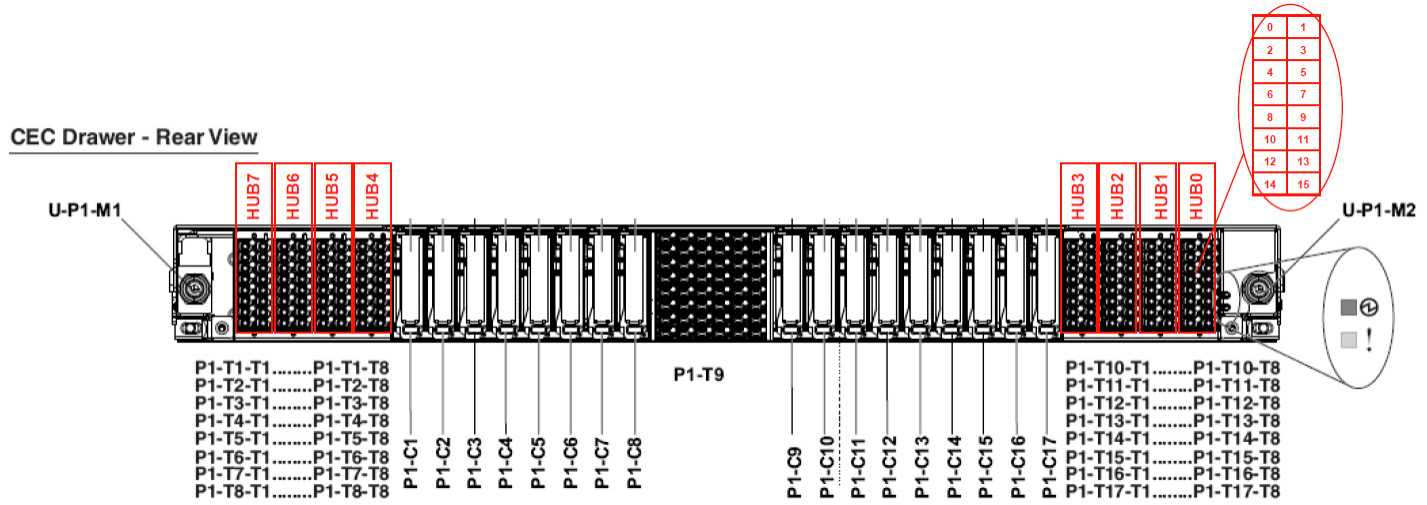

Figure 7 D-Link Port numbering and location codes
STEP 10 Find the D-Port location with the location code or HUB and link-id from the customer, referencing Figure 7.